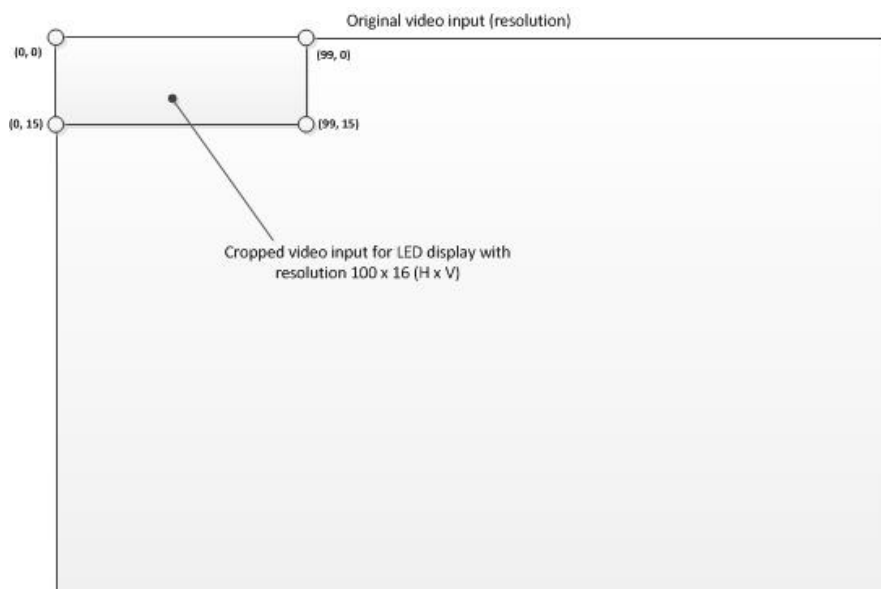

Figure 4. Video Cropping of 100x16 Video Window for LED Display
The first initialization sequence will select the video input image’s part as shown in Figure 4, with the left top corner placed in (0, 0) pixel position
- For the initial configuration described by Figure 4, leave the registers CROPX and CROPY at 0 values